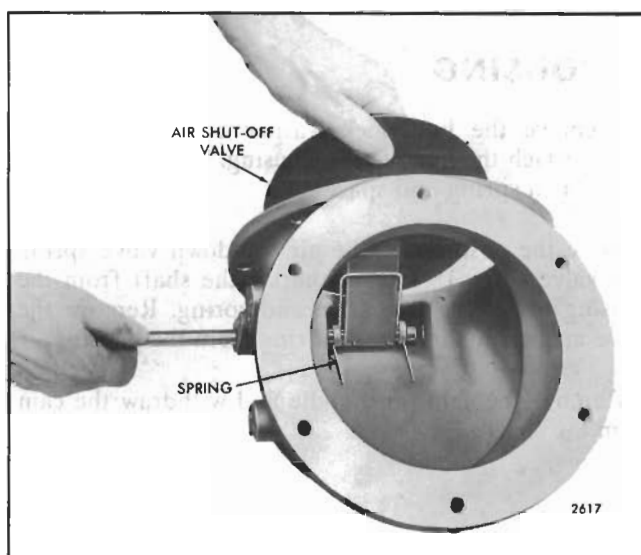

Fig. 3 - Installing Air Shutdown Valve Spring and Valve
4. Note the position of the air shutdown valve spring and valve (Fig. 3), then withdraw the shaft from the housing to release the valve and spring. Remove the valve and spring and the seal ring from the housing.
1. Place the valve(s) and spring in position in the housing (Fig. 3) and **slip** the shaft in place. The shaft must extend .700" from the side of the housing where the shutdown latch is assembled.